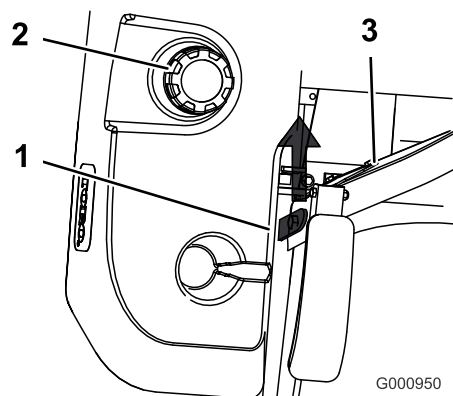

Figure 29
3. Raise the seat up. This will allow access to the machine under the seat (Figure 29).